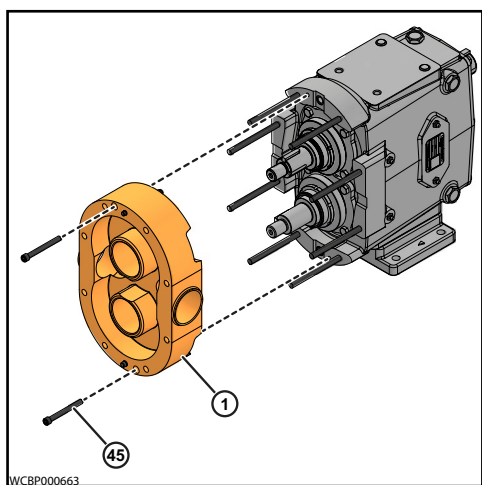

Figure 40 - Remove Cap Screw and Body
1. Remove the two body retaining cap screws (45), as shown in Figure 40.